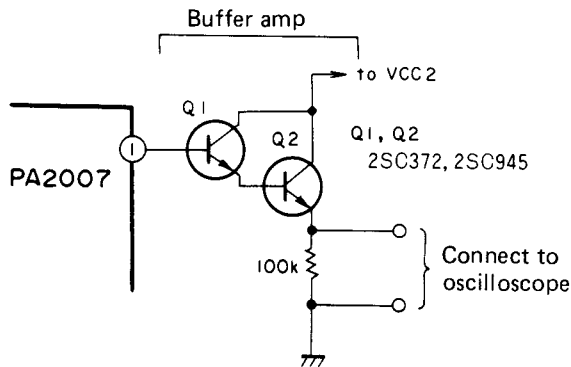

Fig. 14-6 Connect buffer amp
2. Connect a buffer amp to pin 1 of IC PA2007, and connect the output to a oscilloscope (Fig. 14-6).